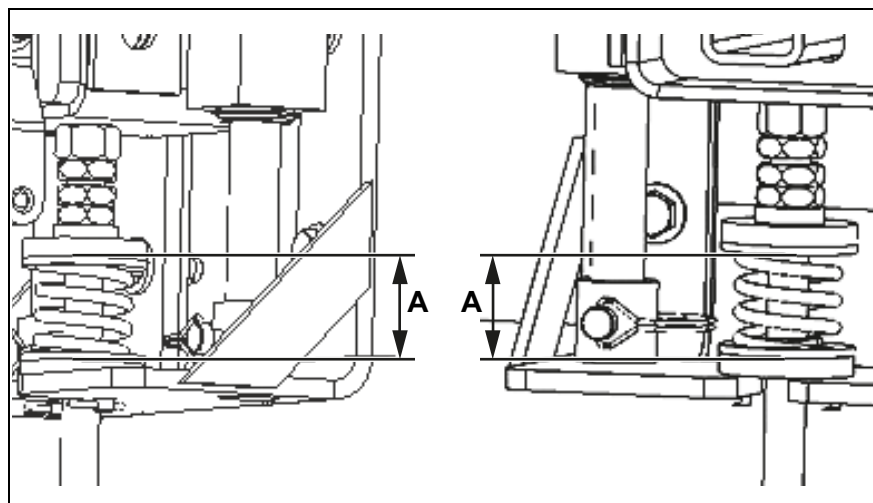

Fig. 21
3. Turn the adjusting nuts equally clockwise on both sides until the spring lengths of the tension springs (A, Fig. 21) are identical.